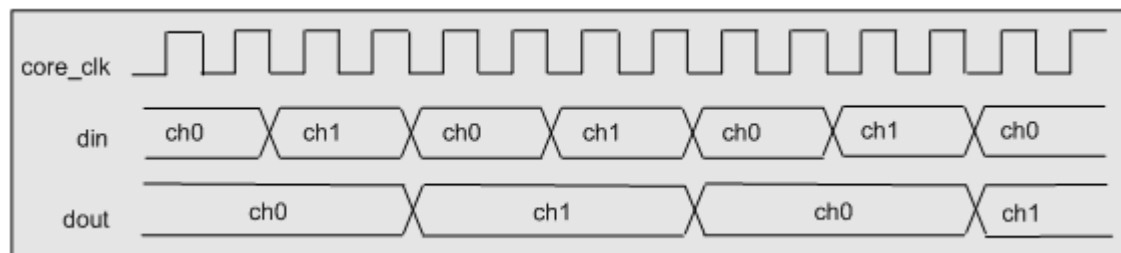

Figure 2 Multi channel data input and output for a decimating filter with sample rate change of 2 and hardware over-sampling of 2
- * **din** : data in port on the FIR Compiler. The data for all channels is provided to the FIR Compiler in a time multiplexed manner(Figure 2) through this port.